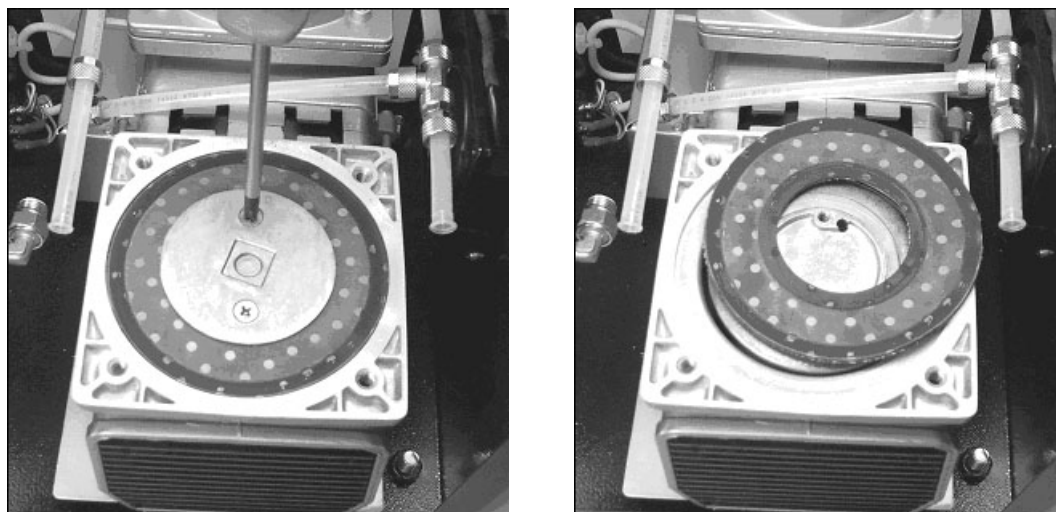

Figure 6.5. Replacing pump membranes, step 6 and 7.
6. Remove the lower membrane holder as illustrated in figure 6.5.